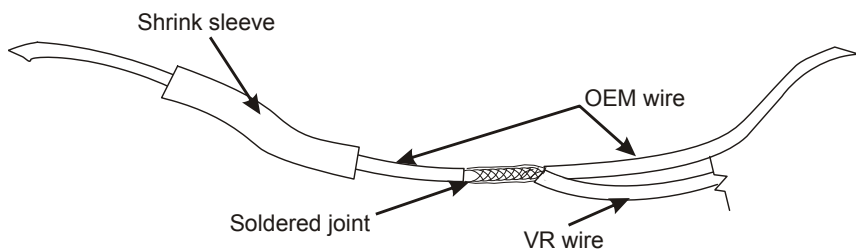

Figure 3.3
- ☐ Solder and seal the white wire from the throttle controller to the appropriate wire for the correct model year at the top ECM connector (located and marked during preparation). The preferred connection method is shown in Figure 3.3.